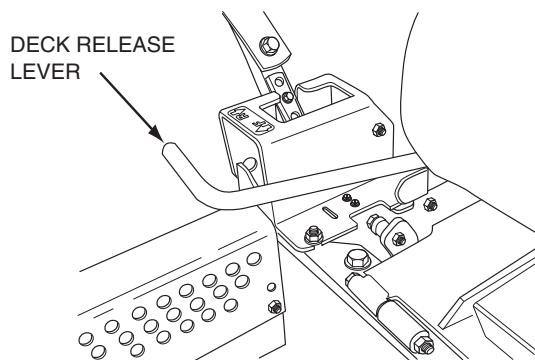

Figure 4-4 Deck Release Lever
3. Insert the lanyard pin into the cutting height index at the desired cutting height. Push forward on the deck lift foot lever, hold in place and lift up on the deck release lever, (Figure 4-4). Slowly release the foot pedal. A deck height decal is located on the cutting height index as an aid in adjusting the deck to the desired height. (Figure 4-5)